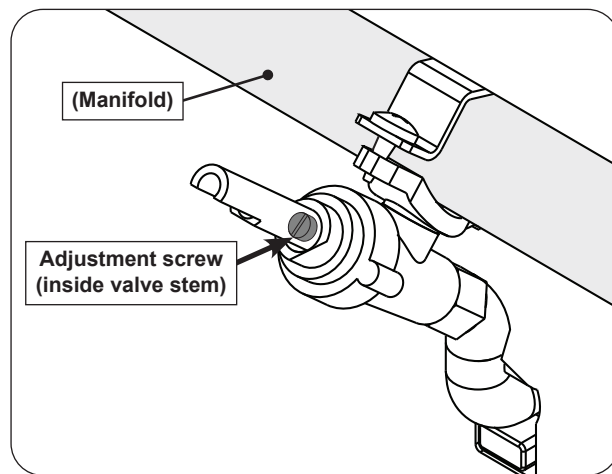

Fig. 54-1 Valve adjustment screw location
4. Locate the FLATHEAD adjustment screw found inside the valve stem (see Fig. 54-1).